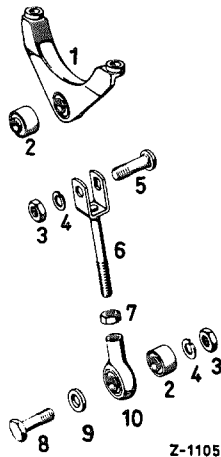

Fig. 22-2/1
On Models 219, 220 S, 220 SE, and on some cars of Model 220 a new front engine brace has been installed in order to prevent engine judder. The engine is given an additional support at the front axle support by means of the jointing rod (6) which is carried in rubber bushings. This reduces vertical movements of the engine (Fig. 22-2/1).